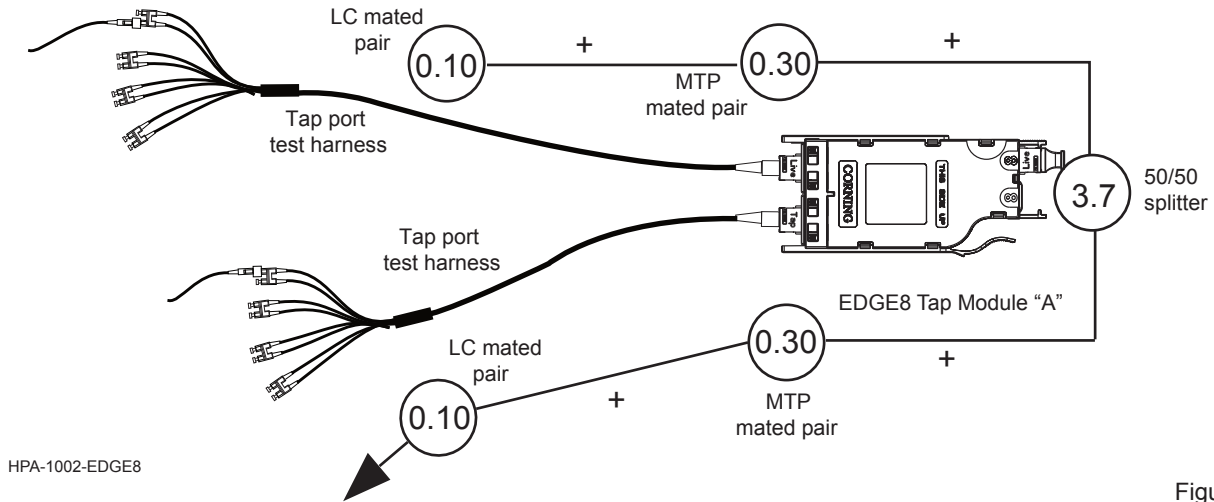

Figure 12
9.1 This section describes how to calculate the loss budgets of the TAP portions of a system using an EDGE8 MTP Tap Module and how to test that portion of the system. Note that you will need to calculate *two* loss budgets for the Tap portion system (Figures 12 and 13). Table 1 above indicates the system loss values of the system components.
9.2. To calculate the system loss for the TAP system, add the loss values of the components that are in the system as illustrated in Figures 12 and 13.